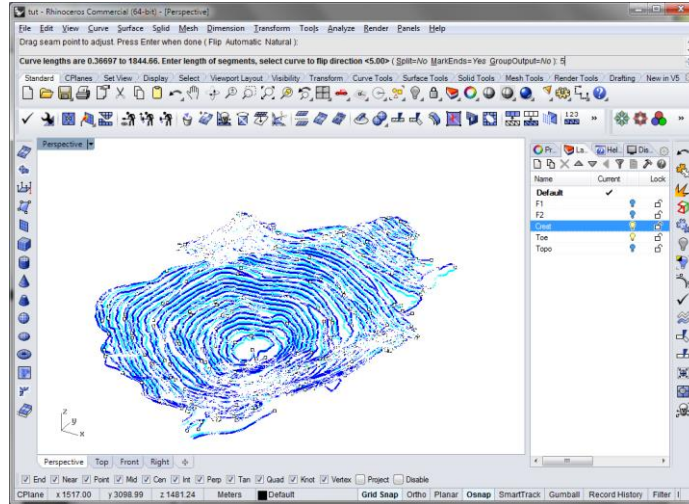

Figure 139: Dividing curves into equal length segments.
1. Double-click the **Perspective** label to maximize the Perspective view. **<CTRL> A** to select all the visible contour lines. **Curve|Point Object|Divide Curve by|Length of Segments**, followed by **<ENTER>**, and set the **length of segments** to 5 (Figure 139).